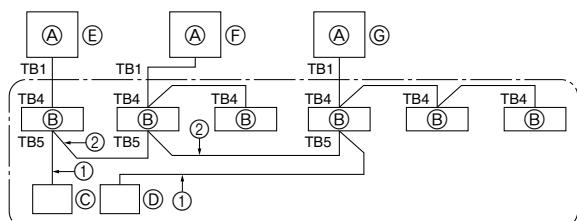

Fig. 8-1
8. System control (Fig. 8-1)
⑤ SW 1 - 3 ~ 6	ON